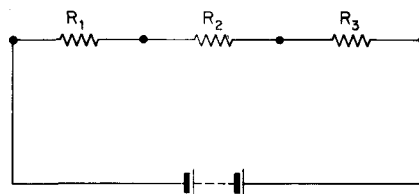

Fig. 2.80 Resistances in series
**Resistances in series.** Fig. 2.80 shows three resistances joined together, end to end, in one long line. When resistors are connected in this way they are said to be connected in series.